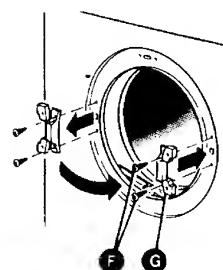

Fig. 2
- Undo screw (A)
- Remove switch strike (B) and replace screw
- Remove hinge block screws (E)
(Fig 2) - Remove hinge screws (F) and hinge (G)